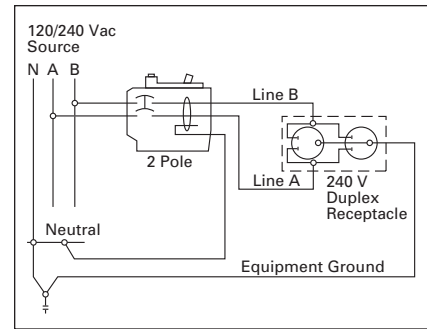

Figure 3-18. 2-Pole 240 Volt Load Application Sourced by 120/240 Vac
- ① Common trip refers to 2-pole 240 volt load application sourced by 120/240 Vac (see **Figure 3-18**).